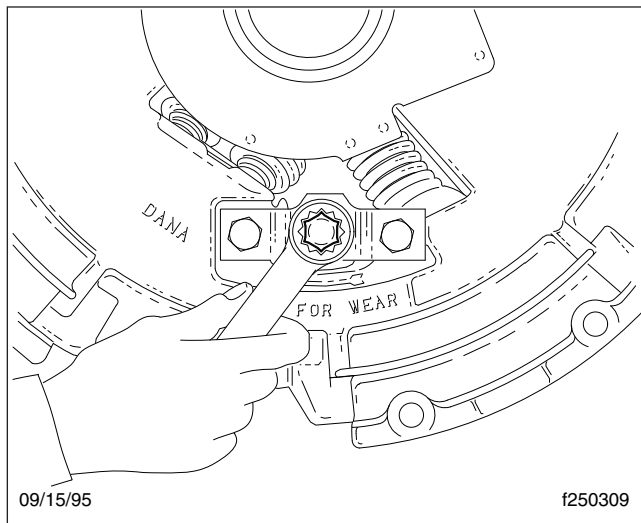

Fig. 11, Adjustment with Kwik-Adjust (shown with bell housing removed)
6. Adjust the clutch, using a 5/8-inch box-end or socket wrench on the adjustment bolt. See **Fig. 11**.